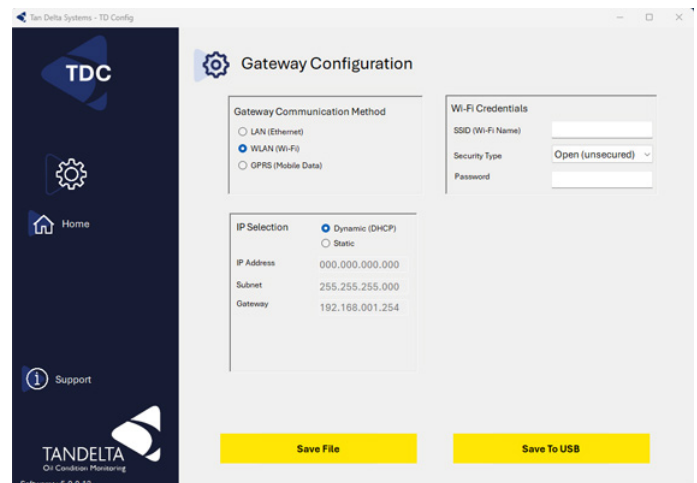

Fig. 6-4 Gateway Configuration - WLAN settings
- 1) Refer to Fig. 6-4. For the **IP Selection**, select either **Dynamic (DHCP)** or **Static** – consult with your network administrator to make sure that you select the correct option.